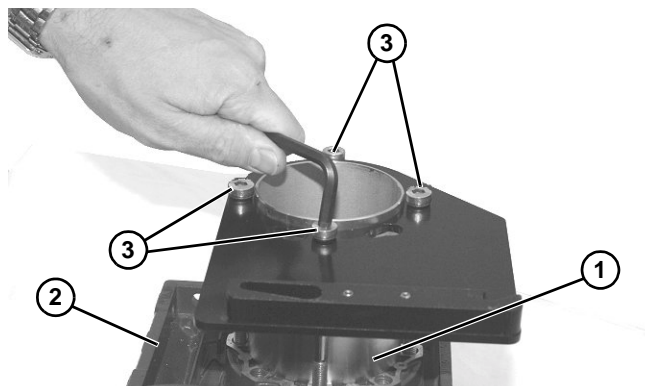

Figure 13
10. Install coupler housing (**Figure 13, item 1**) to gear reducer (**Figure 13, item 2**) and tighten screws (**Figure 13, item 3**).